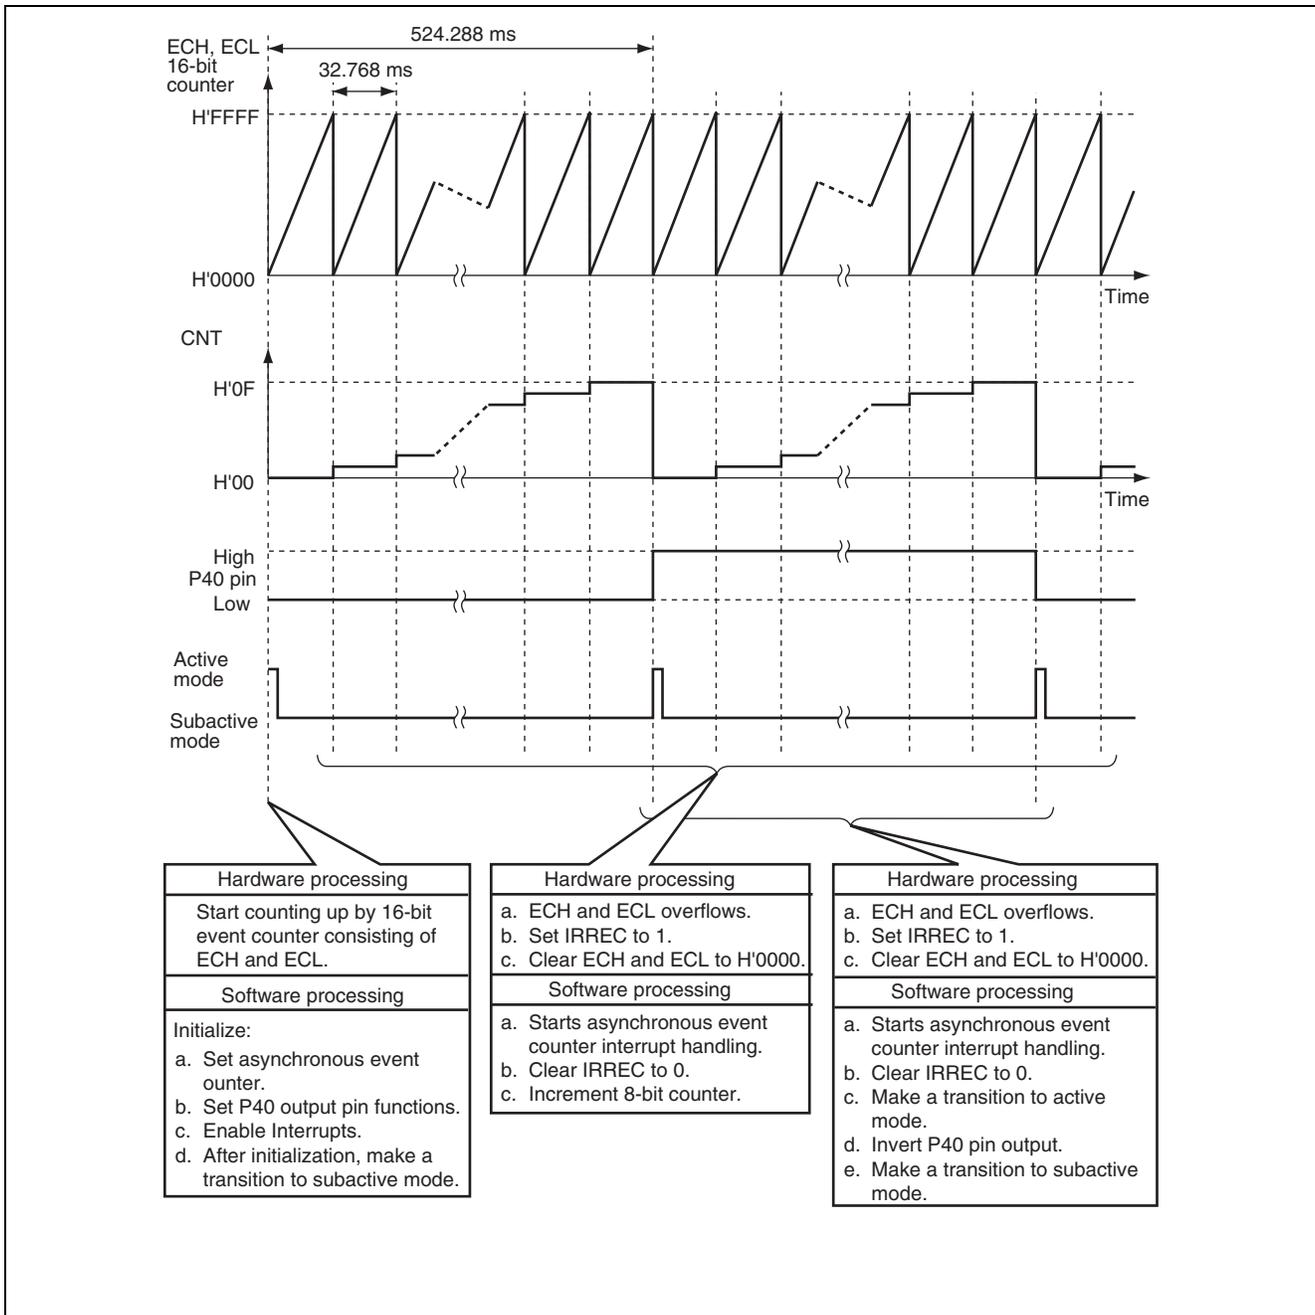

Figure 3.1 Operation Principle of Asynchronous Event Counter
1. Figure 3.1 illustrates the operation of this sample task. Asynchronous event counter operation is implemented through hardware and software processing as shown in the figure.